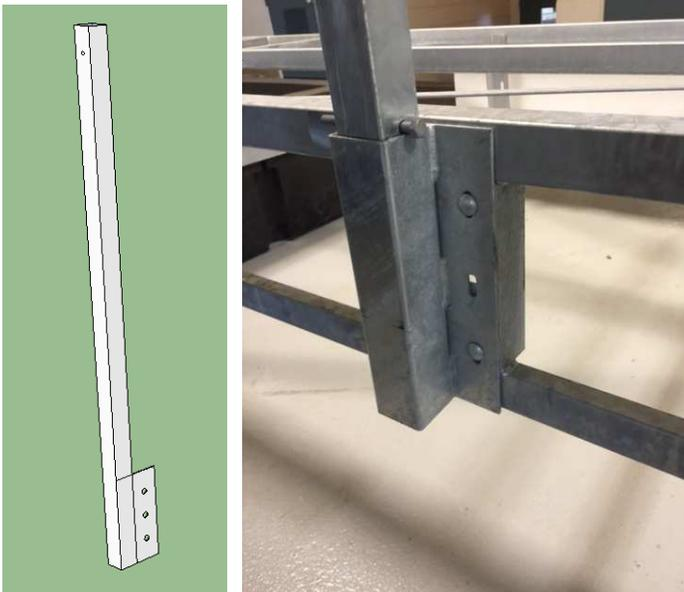

FIGURE 1
Step 1: First bolt up the upright stands (Figure 1) with 3 - 1” carriage bolts just like how the dock sections are bolted together. These will go on the 4 corners and should be about 14-16’ apart. Bolt all four in a rectangle pattern.